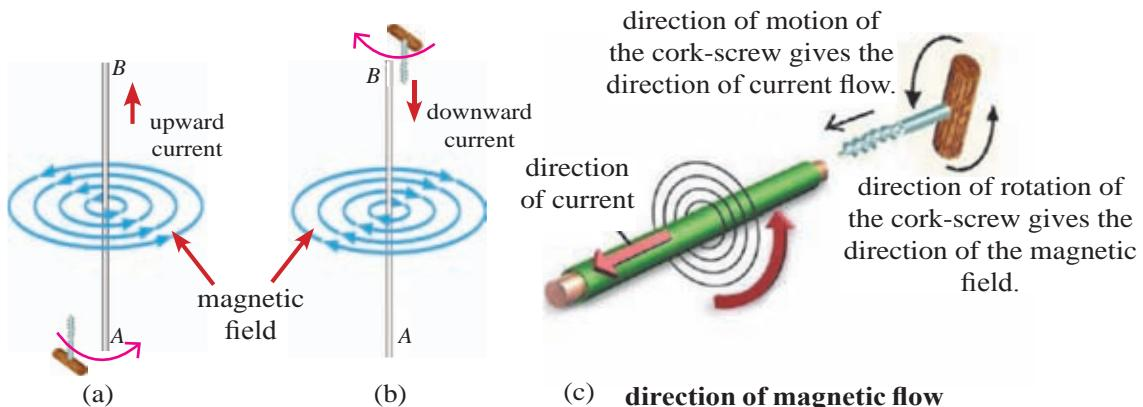

Figure 13.10 – Magnetic field around a current carrying conductor
- According to Figure 13.10 (a), when a current flows from A to B, the direction of the resulting magnetic field is anti-clockwise.
- According to Figure 13.10 (b), when a current flows from B to A, the direction of the resulting magnetic field is clockwise.